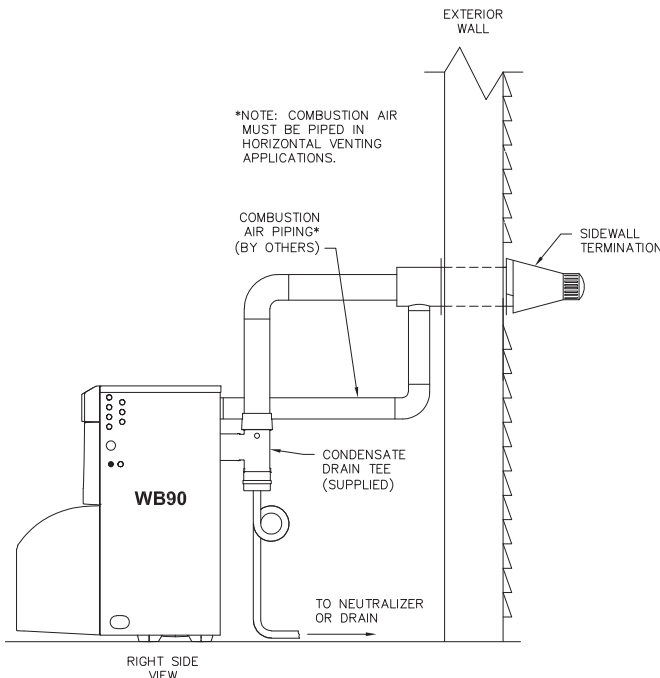

Figure 3.2: Horizontal Sidewall Venting
- a. Figure 3.2 shows a typical installation with sidewall venting.